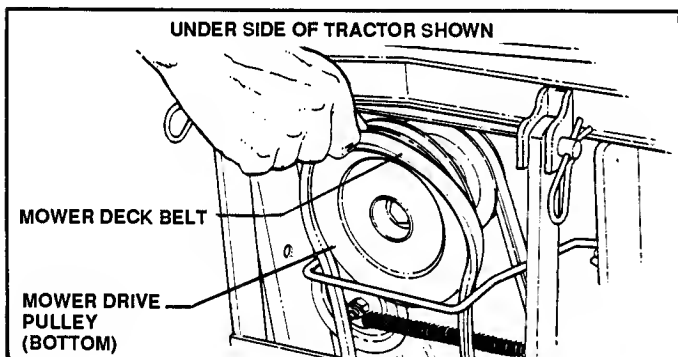

FIGURE 30
5. Remove **MOWER DECK BELT** from bottom pulley of engine. See Figure 30.